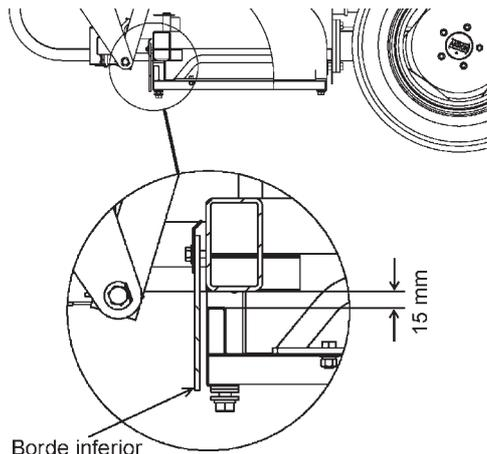

Figure 14 - Grain retainer rubber
10) Using the cranks again, tighten the tray-supporting cable until the tray is at some 10 cm (4") from the ground, parallel to the lower part of the silo tunnel. When adjusting the tray height, its lower part should coincide with the lower edge of the rubber that prevents grain returning. This way a 15 mm (9/16") clearance is set between the lower part of the tunnel and the tray, which allows the grain bag folds to be released smoothly and at the same time prevents the grain from returning to the tray, i.e. from falling outside the grain bag. Figure 14 and the additional detail explain this.